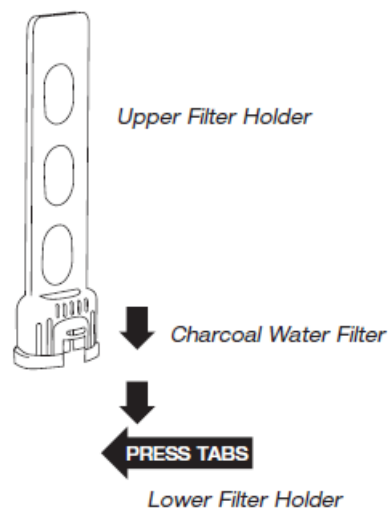

figure 6
4. Insert the charcoal filter into the upper filter holder, then attach the lower portion by pressing on tabs and pushing until it locks into place (see figure 6).